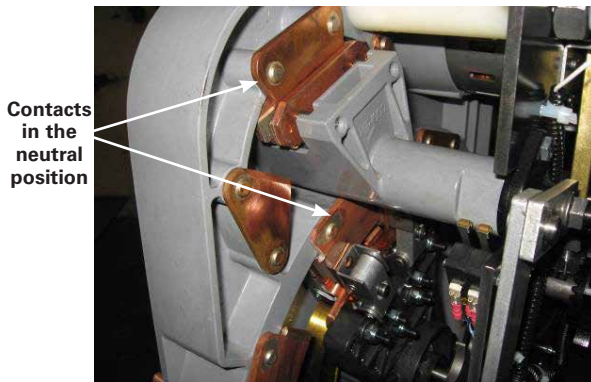
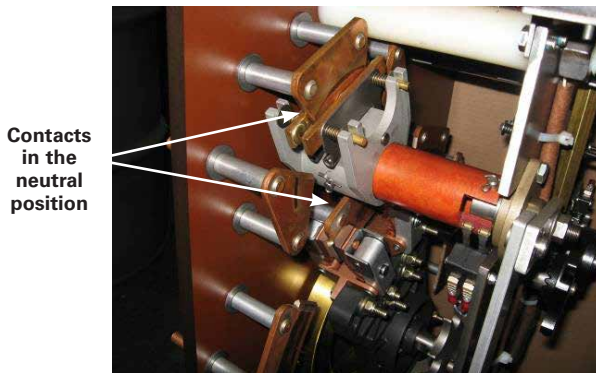

Figure 1.
Figure 2.
2. The QD5 should be in the neutral position before starting the replacement procedure. The current QD5 design has a molded back panel (see Figure 1); an earlier design employs a phenolic back panel (see Figure 2). If the QD5 is not in the neutral position, turn the back of the motor shaft using a 3/8 inch socket wrench until the QD5 is in the neutral position.